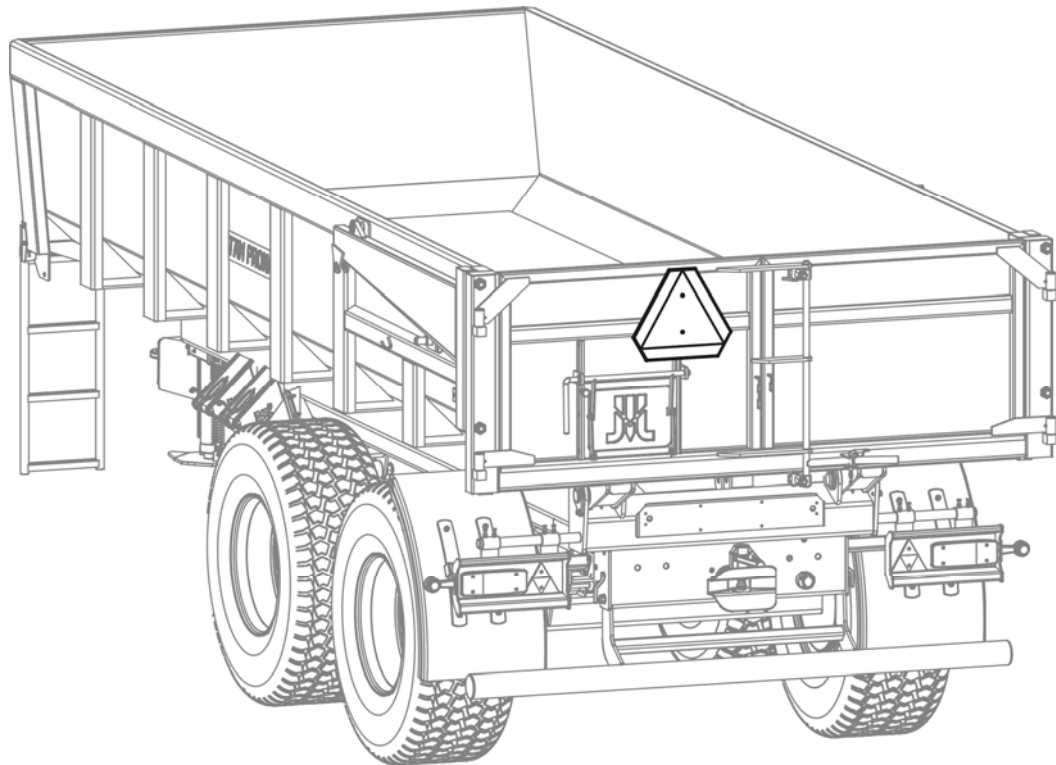

FIGURE 3 LOCATION OF THE TRIANGULAR BOARD OF SLOW-MOVING VEHICLES.
- On the rear retractable frame there must be placed the triangular board distinguishing slow-moving vehicles if the trailer is the last vehicle in the group (figure 3).